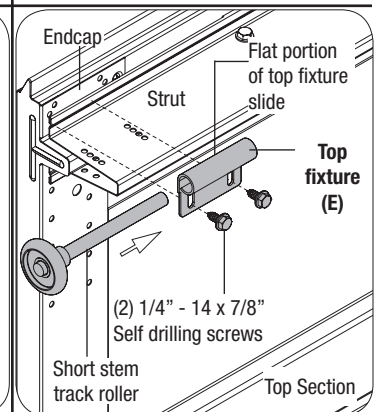

FIG. 3.8
Vertically align the flat portion of top fixture slide with the endcap and strut at the top of top section. Fasten top fixture slide using (2) 1/4" - 14 x 7/8" self drilling screws, as shown in FIG. 3.8. Repeat the same process for the other side.